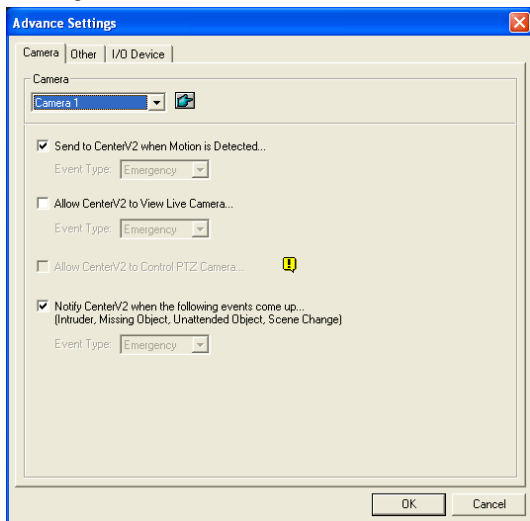

Figure 1-10
1. The GV-System needs to grant the Center V2 the privilege to allow live viewing. On the GV-System, click the **Network** button, select **Connect to Center V2**, click **Configure**, and select **Advanced Settings** and click the **Camera** tab. The Advanced Settings dialog box appears (Figure 1-10).